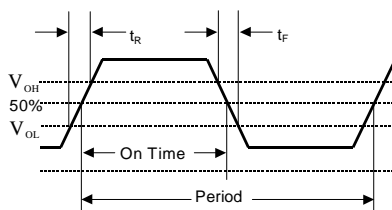
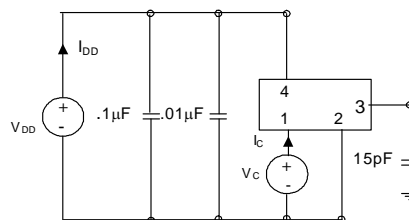

Figure 3. Output Waveform
Figure 4. Typical Output Test Conditions (25±5°C)
2. Figure 3 defines these parameters. Figure 4 illustrates the operating conditions under which these parameters are tested and specified. For  $f_O > 90\text{MHz}$ , rise and fall time is measured 20 to 80%.